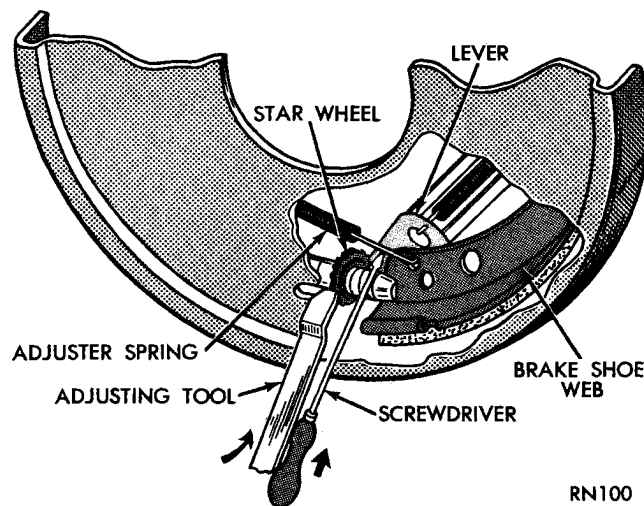

Fig. 1—Adjusting Service Brakes
(1) Jack up vehicle so all wheels are free to turn.
(2) Remove rear adjusting hole cover from brake supports of vehicle.
(3) Be sure parking brake lever is fully released, then back off parking brake cable adjustment so there is slack in cable.
(4) Insert adjusting Tool C-3784, into star wheel of adjusting screw. Move handle of tool upward until a slight drag is felt when road wheel is rotated.
(5) Insert a thin screwdriver or piece of welding rod into brake adjusting hole and push adjusting lever out of engagement with star wheel (Fig. 1). Care should be taken so as not to bend adjusting lever or distort lever spring. While holding adjusting lever out of engagement, back off star wheel to insure a free wheel with no brake shoe drag.
(6) Repeat above adjustment at each wheel. The adjustment must be equal to all wheels. Install adjusting hole covers in brake supports.
(7) Adjust parking brake after wheel brake adjustment.